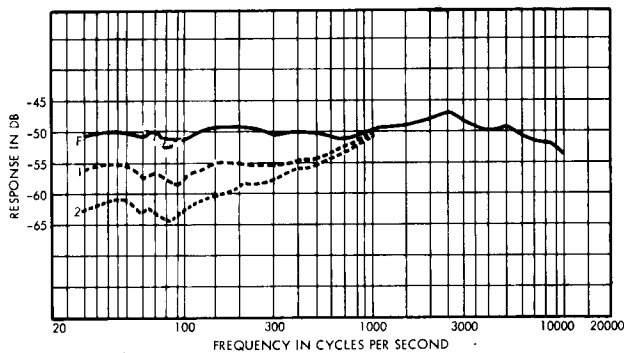

FIG. 3 - FREQUENCY RESPONSE
3. The bass frequency control is located on the back of this microphone. It may be adjusted with a screwdriver. Positions: F = Flat; 1 = First Position Rolloff; 2 = Second Position Rolloff (See Figure 3)
- Frequency Response: Flat from 30 to 10,000 cps or choice of 5 or 10 db low frequency reduction steps with external screwdriver slot adjustment. Position — F = Flat, 1 = First Position Rolloff, 2 = Second Position Rolloff, (See Figure 3)